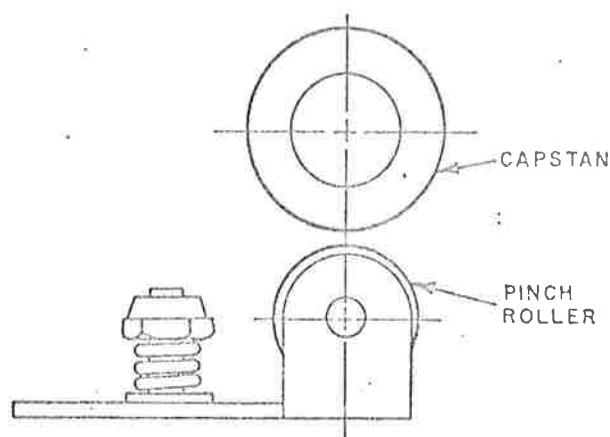

Fig. 1.1 Pinch Roller/Capstan Centerline Adjustment
- a) Pinch roller made from plastic should be replaced by the new type made from aluminium. Control that the centerline of the pinch roller falls directly under the centerline of the capstan. Fig. 1.1.